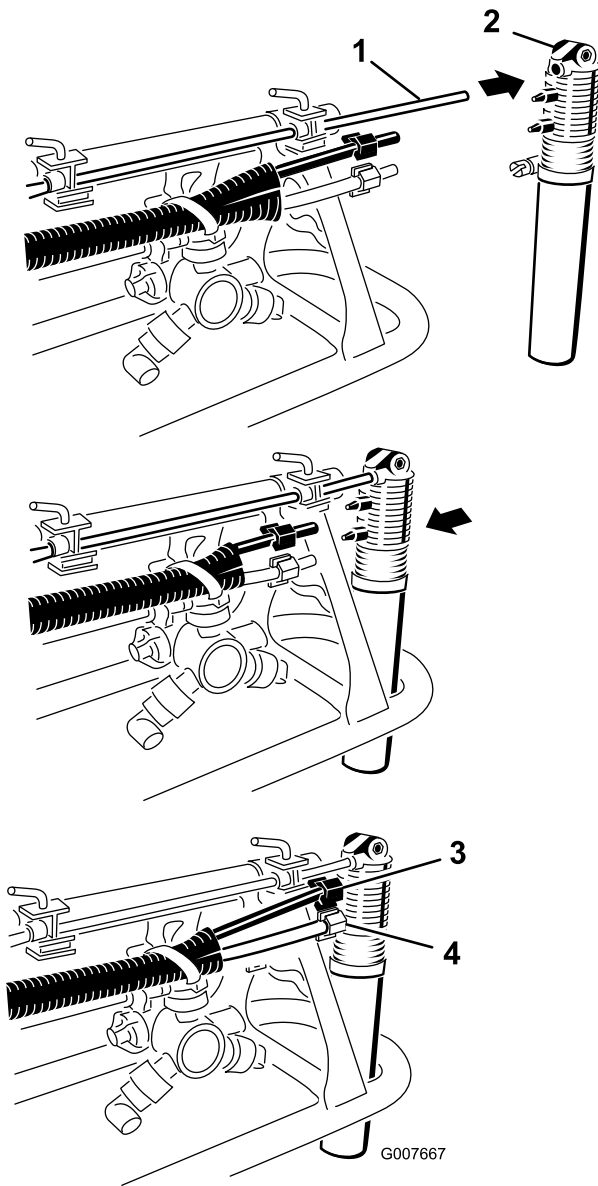

Figure 19
6. Locate the foam nozzles in loose parts. Install a nozzle to the mounting rod as shown (Figure 19).